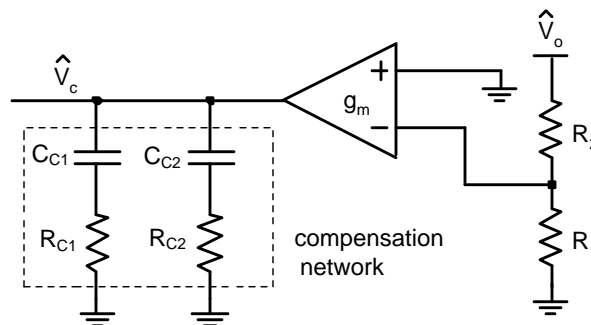

Figure 19. Compensation Network
- R1 and R2 are the feedback resistors as shown in Figure 19
- (13)
The compensation network (Figure 19) will also introduce a low frequency pole which will be close to 0Hz.
A second pole should also be placed at fz. This pole can be created with a single capacitor Cc2 and a shorted Rc2 (see Figure 19). The minimum value for this capacitor can be calculated by: